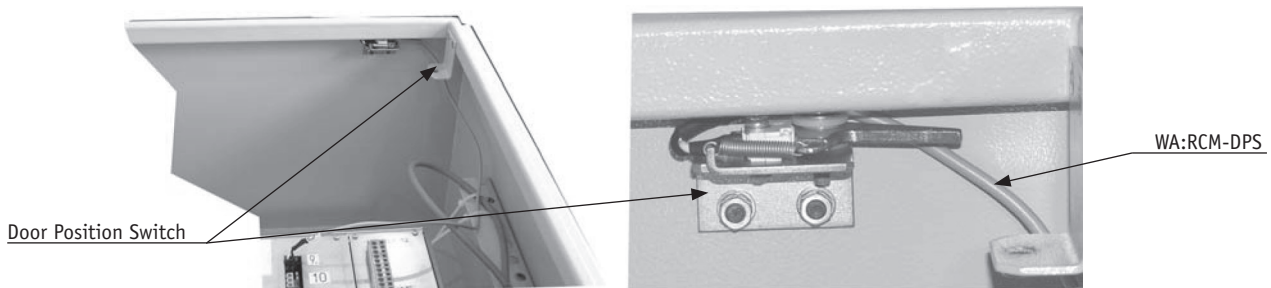

Figure 86
3. Unscrew two nuts fixing the WA: RCM-DPS angle staff and remove washers (Fig. 86).